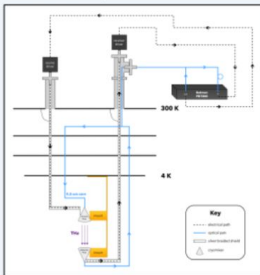

Figure 3: Experimental setup for testing photomixer performance in a 4K cryostat
- Cold system being prepped for cryogenic operation (Fig. 3)